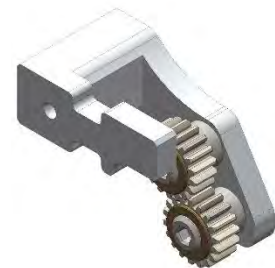

Figure 29
- 1401.200-009 → Anti-clockwise rotation Module. Fig.29.